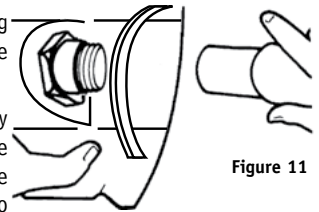

Figure 11
2. Connect breathing tube assembly to helmet by screwing plastic hose connector to fitting located on the rear of the helmet. Turn clockwise to tighten (Figure 11).